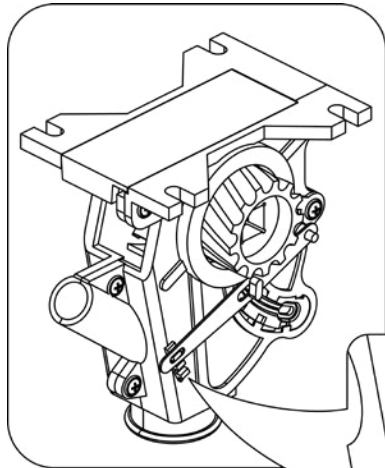

Figure 22
- 1- Adjust the records of the seed distribution boxes for each type of seed and for not to break or cause an irregular seeding. Figure 22.
Number of the scale in Figure 22